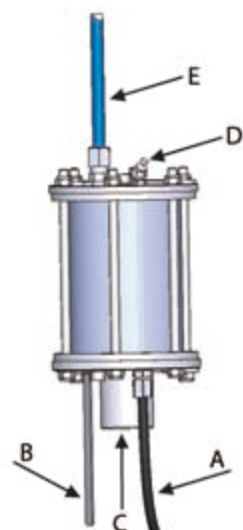
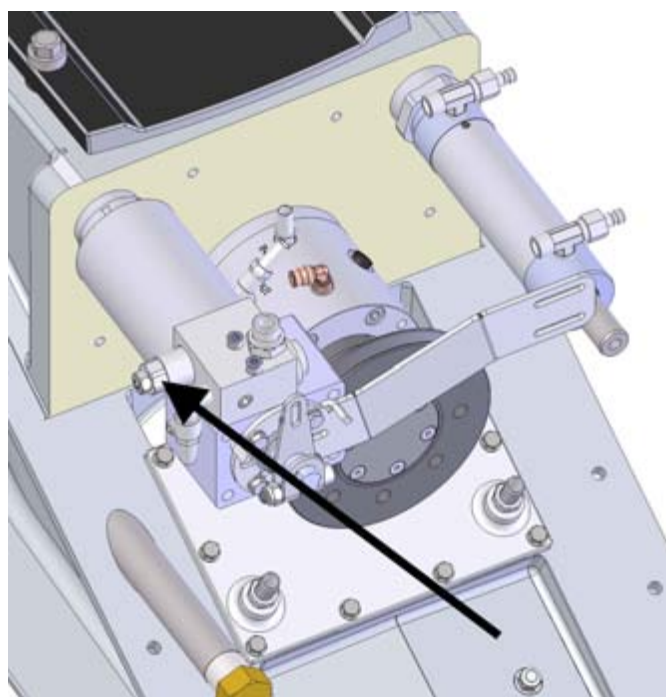
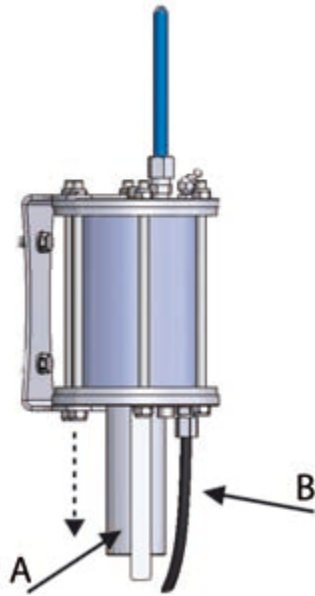

Figure 21. Automatic lubrication unit
Figure 22. Adjusting the automatic lubrication unit
Figure 23. Automatic lubrication unit's piston movement range
The automatic lubrication unit (figure 21) decreases the need for maintenance because it feeds grease to the rear bearing each time the jet's main shaft rotates. The grease going to the rear bearing lubricates the bearing, and it also prevents water from leaking into the bearing housing. The amount of grease is adjusted with a screw in the hydraulic cylinder, which tightens the spring (figure 22). When you loosen the screw, the amount of grease decreases.
Note the lengths of the oil pressure hose and the grease hose. The oil pressure hose (figure 23, point B) must not be tight. Also make sure that the piston (figure 23, point A) can move freely, as it protrudes the length of the scale when the reservoir fills up.
- If the automatic lubrication unit feeds too much grease (the reservoir empties too soon), reduce the pressure by loosening the adjusting screw (figure 22).
- If the automatic lubrication unit does not feed grease to the rear bearing (cold conditions, thick grease type), increase the pressure by tightening the adjusting screw (figure 22).
You can fill the reservoir by pushing grease into it with a grease gun through the nipple (figure 21, point D). Then the piston (figure 23, point A) will protrude out of the reservoir.